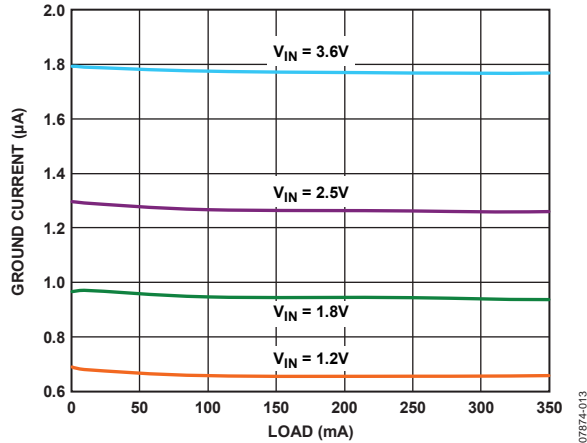

Figure 13. Ground Current vs. Load Current
The major source for ground current in the ADP190 is the 4 M $\Omega$  pull-down on the enable (EN) pin. Figure 13 shows typical ground current when  $V_{EN} = V_{IN}$  and  $V_{IN}$  varies from 1.2 V to 3.6 V.